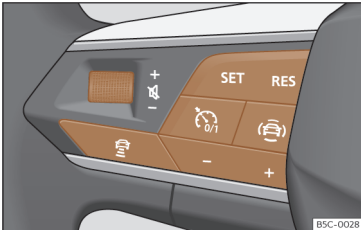

Fig. 136 On the multifunction steering wheel: buttons for operating the ACC.
- Press the  button on the multifunction steering wheel >>> Fig. 136.
- To start regulation, press the button **SET** >>> Fig. 136.
To program the speed, press the + or – >>> Fig. 136 buttons to the desired speed. The speed is adjusted at intervals of 10 km/h (5 mph).
- Press the button  and then the button + or – >>> Fig. 136.
- Briefly press the button  >>> Fig. 136 or press the brake pedal.